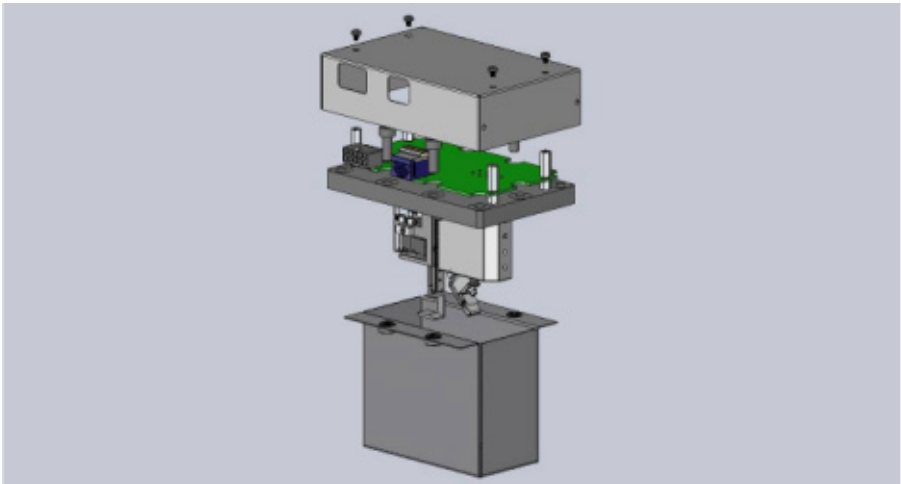

Figure 5: Header Assembly Screws
12.Remove the top cover from the header assembly by removing the four screws using an M3 Philips screw driver (Figure 5: Header Assembly Screws).